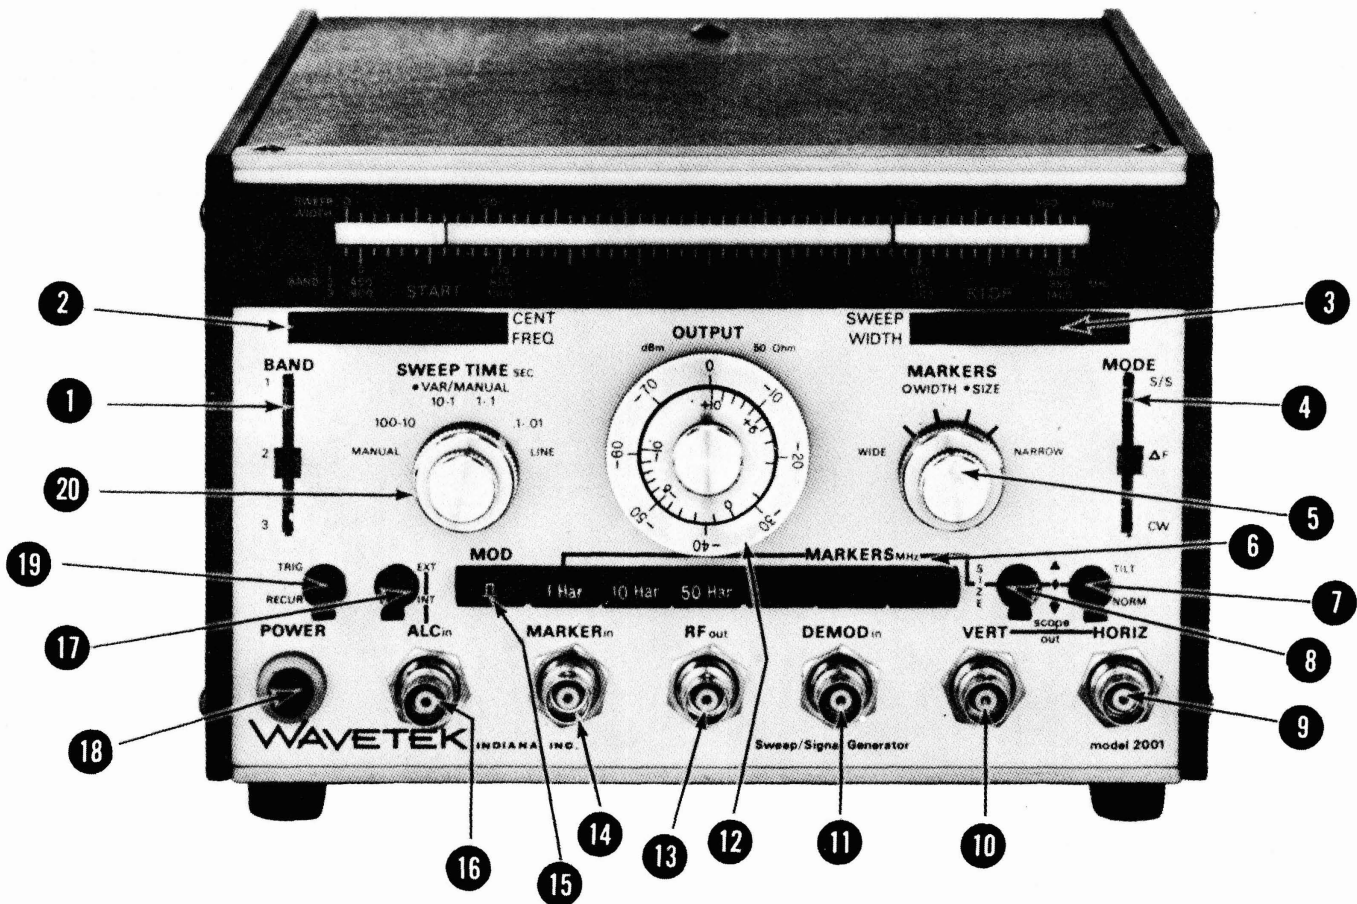

Figure 3-1. Front Panel
3.2 DESCRIPTION OF FRONT PANEL (Refer to Figure 3-1 for control location)
- ① BAND Switch – Selects desired band; 1 to 500 MHz, 450 to 950 MHz or 900 to 1400 MHz.
- ② START/CENT FREQ. – Controls Start Frequency when MODE Switch is set to S/S (Start/Stop) or Center Frequency when MODE Switch is set to Δf and C.W.
- ③ STOP/SWEEP WIDTH – Controls Stop Frequency when MODE Switch is set to S/S (Start/Stop) or controls Sweep Width when MODE Switch is set to Δf .
- ④ MODE Switch – Selects Start/Stop, Δf or continuous wave operation.
- ⑤ MARKERS O WIDTH • SIZE – Dual concentric control; outer knob adjusts marker width from 15 to 400 kHz in four steps; inner knob controls marker size.
- ⑥ MARKERS – Six push button switches control A1 and A2 Marker Options (Marker frequency is engraved on push button).
- ⑦ TILT/NORM Switch – Provides vertical markers in the NORM (down) position. In the TILT (up) position provides horizontal markers having a fixed amplitude of approximately 10% of the horizontal display, when MARKER SIZE is set to minimum.